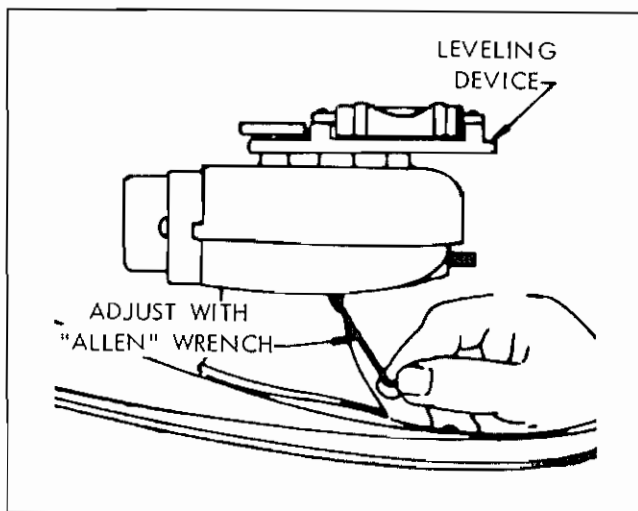

Figure 57
6. Use Allen wrench located inside tester cover and adjust vertical aiming screw until bubble is centered in the level, see figure 57.